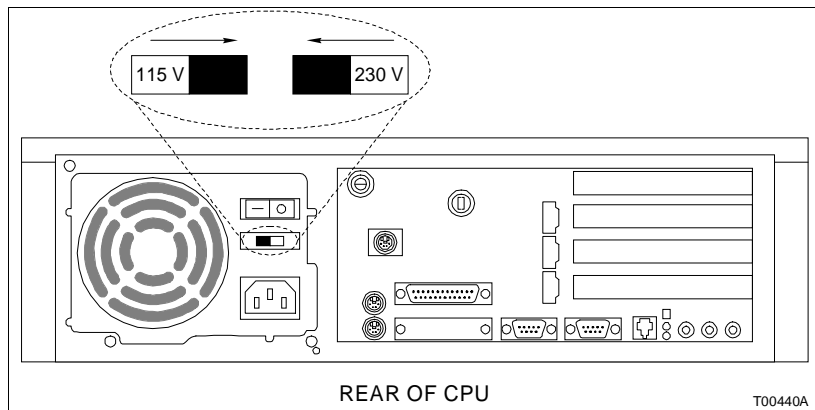
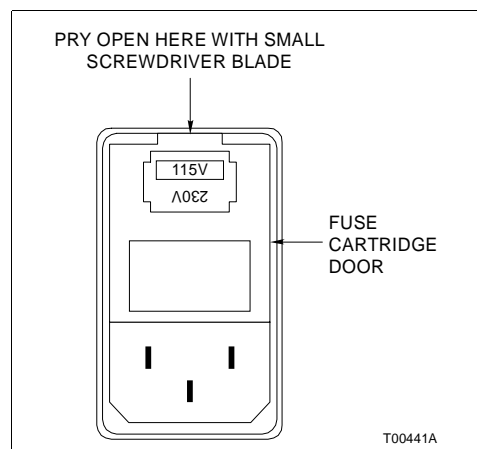

Figure PR26-6. IS43XM, IS43XT and IS43XX Work Station CPU
Figure PR26-7. Lifting Mechanism Power Input Module
-  16. Verify that the voltage switch setting on the rear of the CPU for IS43XM, IS43XT and IS43XX work stations (Fig. PR26-6) and the power input module for the lifting mechanism (Fig. PR26-7) on all work stations (if supplied) are set to the proper input voltage level.